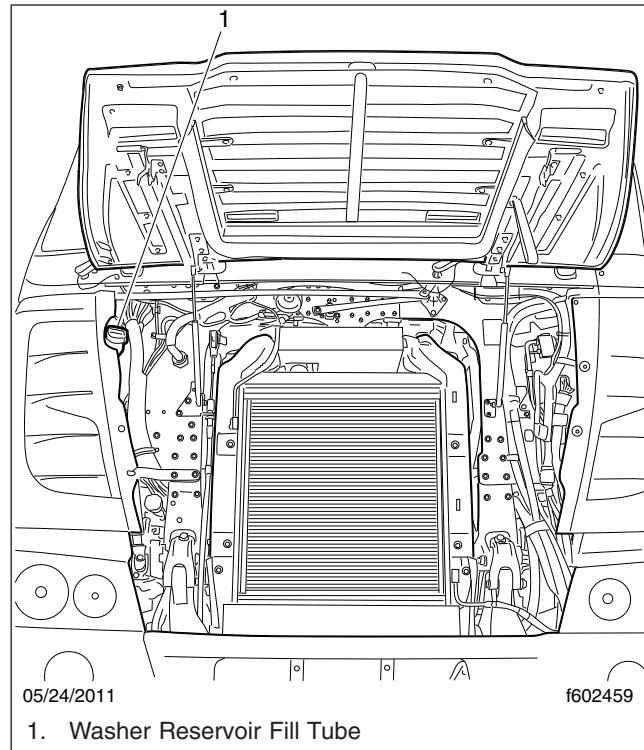

Fig. 23.7, Windshield Washer Reservoir Location (right-hand side location shown)
4. Check the windshield washer reservoir fluid level. See **Fig. 23.7**.